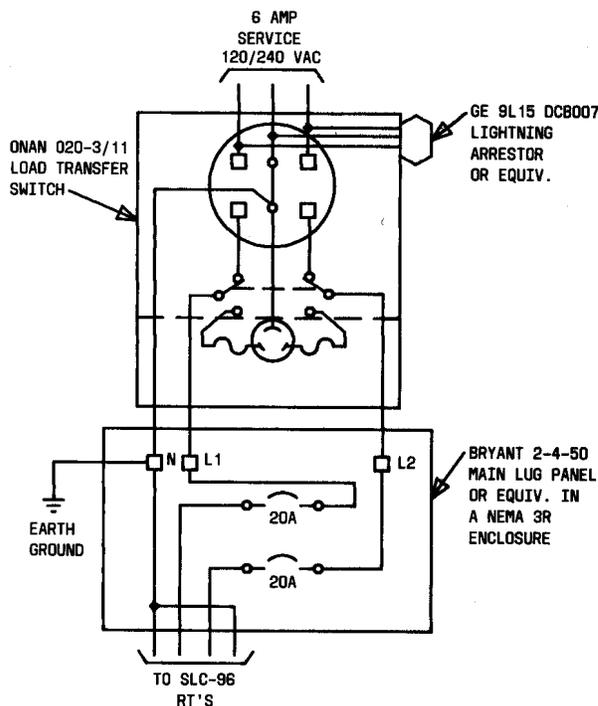

Fig. 27—Providing Auxiliary Power For One or Two SLC-96 RTs Using Onan Load Transfer Switch
D. Power Configuration No. 2 (Fig. 27) For One or Two SLC-96 RTs